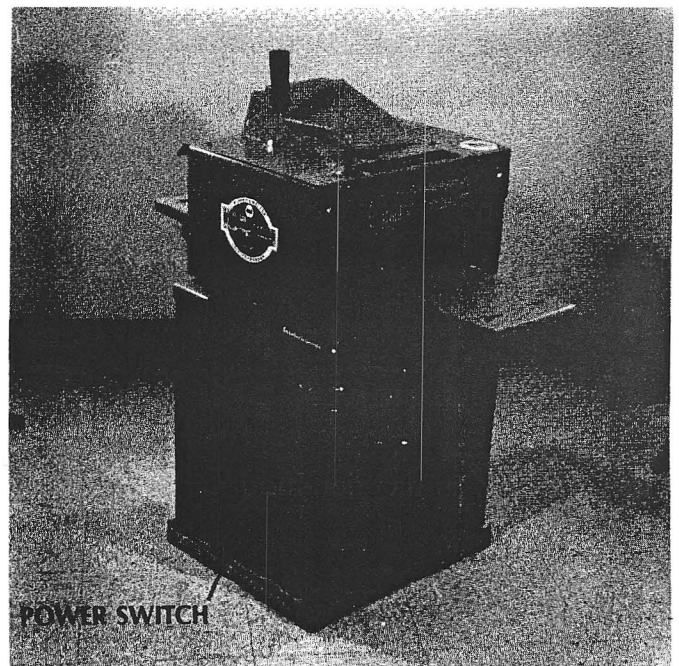

Fig. 1
4. Mount switch enclosure on left skirt with the carriage bolts, nuts and washers provided in the bolt bag. The rounded head of the bolts should be on the outside. (fig. 1)